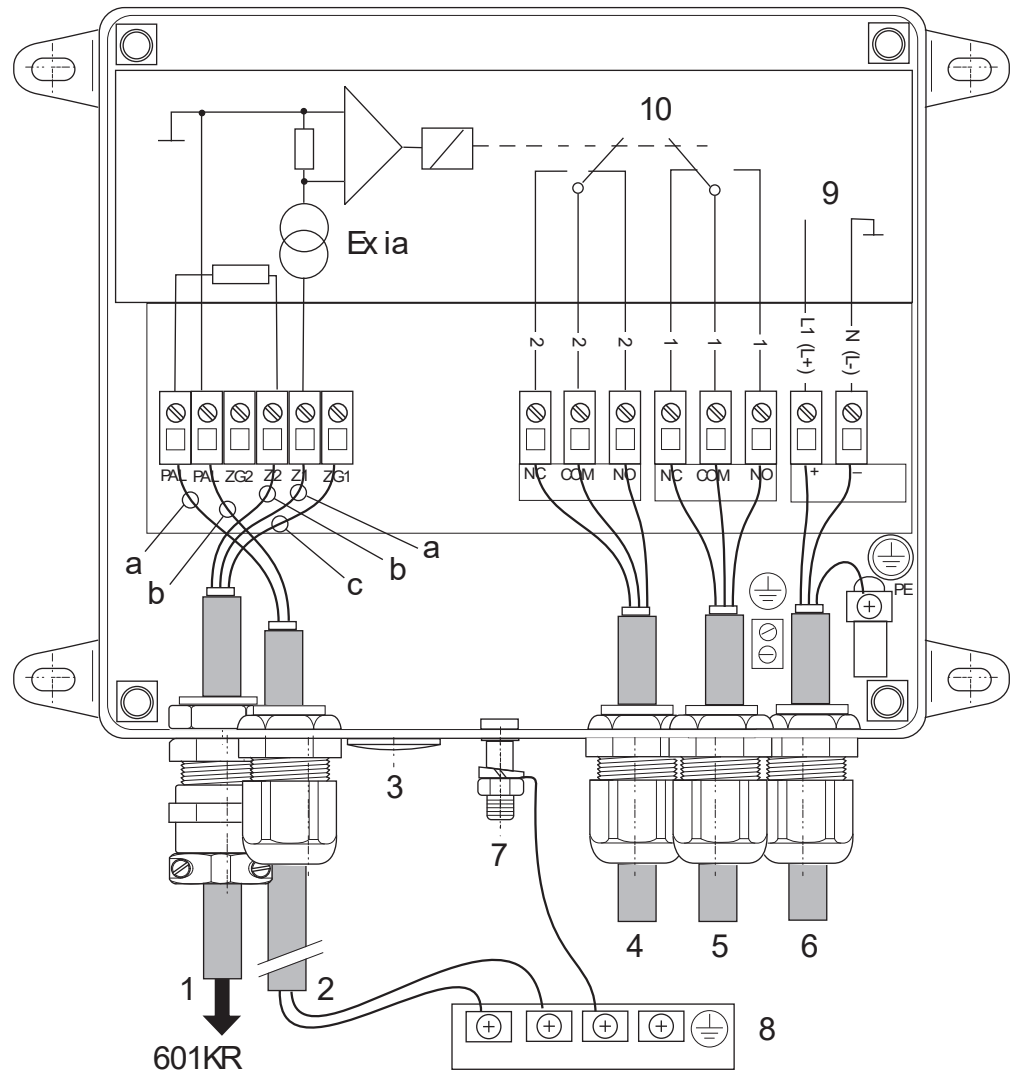
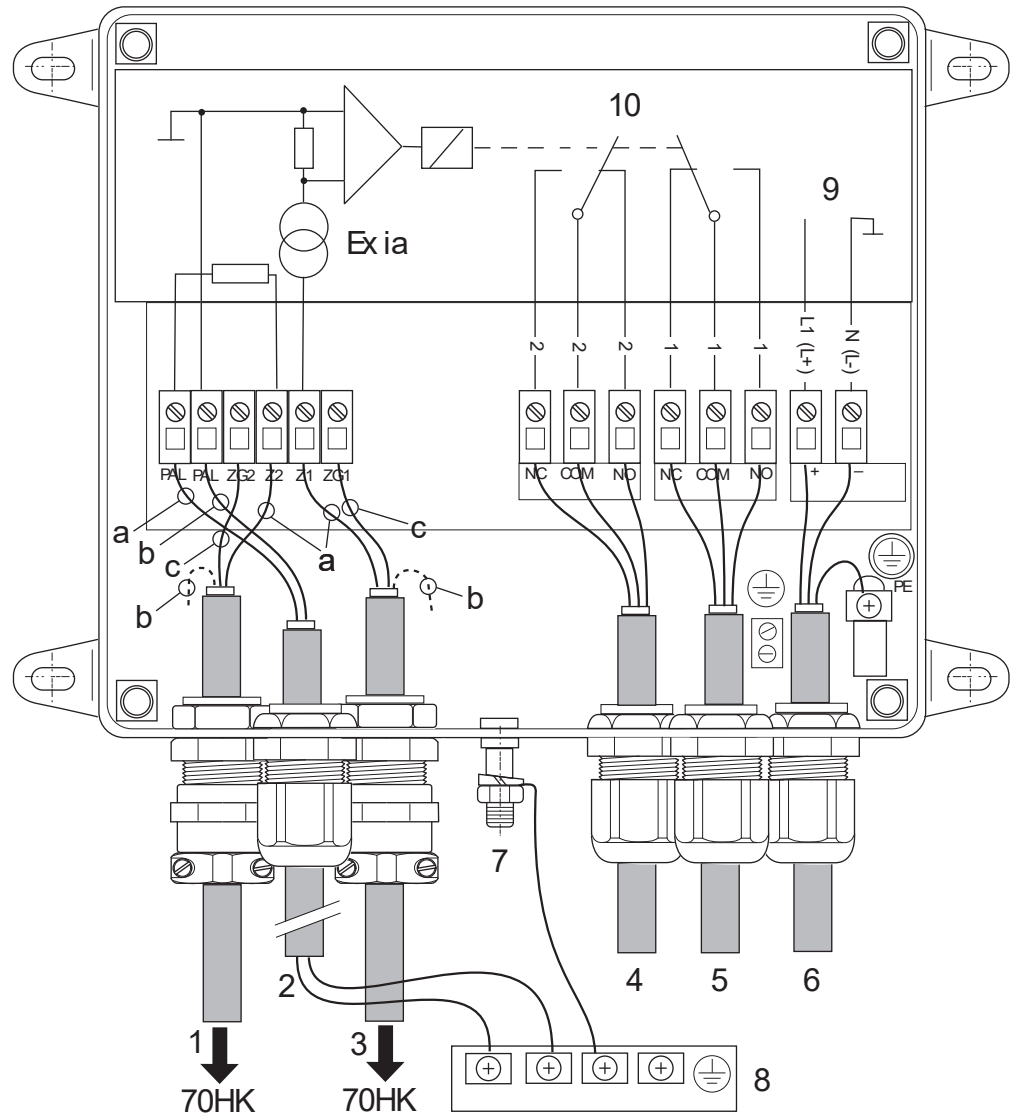

Fig. 4:
Fig. 5:
- The unit must be connected to the equipotential bond via the external ground terminal (7, Fig. 4 / Fig. 5). In addition, the ground terminal inside the enclosure must be connected to a PE conductor or a bonding conductor (see chapter 3.1.2 "Assembly", page 13).
- Intrinsically safe circuits must be routed separately from non-intrinsically safe circuits (separate cable conduits/ducts). Crossing intrinsically safe and non-intrinsically safe leads is not permitted. An equipotential bonding connection (PA) must be established along the entire intrinsically safe measuring circuit (see chapter 3.1.3 "Electrical connections", page 14, chapter 3.2.2 "Electrical connections", page 20).
- A potential equalization system (PA) has to be set up along the complete measuring circuit (see chapter 3.1.3 "Electrical connections", page 14).
The unit must always be connected to the equipotential bond via the external ground terminal (7, Fig. 4 / Fig. 5). In addition, the ground terminal inside the enclosure must be connected to a PE conductor or a bonding conductor.
The connection space of the unit is accessible after opening the cover of the enclosure. The terminals for the clamps are located on the left. These circuits are intrinsically safe. The non-intrinsically safe terminals for the supply voltage and the signal contacts are located on the right (see Fig. 4 / Fig. 5).
- Insert cable and connect according to Fig. 4 / Fig. 5.
The connecting lead of the ground contactor is routed in via the cable gland with kink guard (1, Fig. 4 / Fig. 5). Appliances for BIG-BAG grounding have two contact makers, and the second lead is routed in via an additional cable gland with kink guard (3, Fig. 5).
A two-core cable for connecting the ground circuit with the PAL bonding lead is routed into the connecting terminal space via the cable inlet (2, Fig. 4 / Fig. 5). The double routing ensures that any disruptions to the PAL bonding lead are identified.
The two PAL leads belong to the intrinsically safe circuit, see cable entry 2, Fig. 4 / Fig. 5. The terminals of the Terrabox TCB030 are also marked as intrinsically safe terminals (blue).
The signal leads are routed via the cable inlets (4 and 5, Fig. 4 / Fig. 5), the supply voltage lead is routed in via the cable inlet (6, Fig. 4 / Fig. 5).
In the ex factory state, the lead-ins (2, 4 and 5, Fig. 4 / Fig. 5) are sealed. Lead-ins not used must be blanked off.